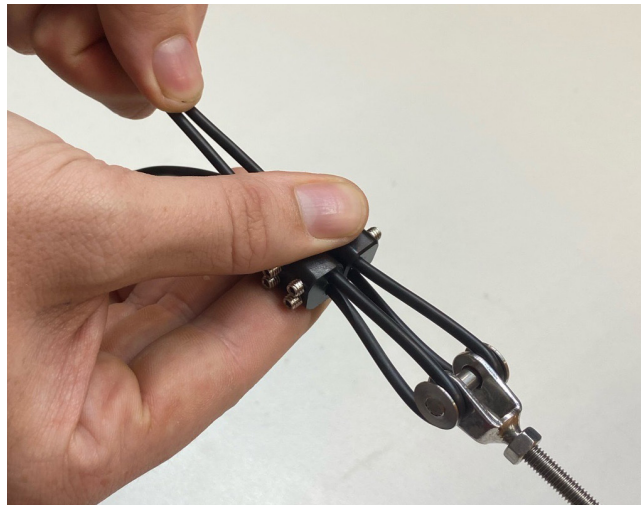
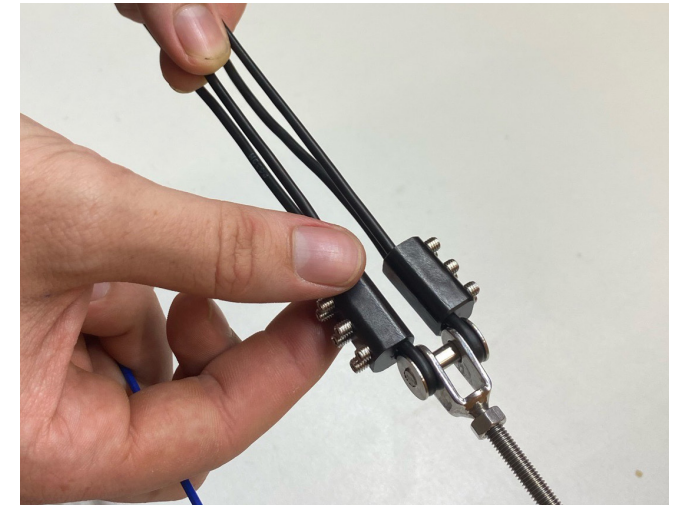

Fig 4.1 Pull extra cabling through the fixing block until they are tight and even in tension (above), then slide the block up to the turnbuckle (above right).
Fig 4.2 Slide the blocks up to the turnbuckle.
4. Pull the extra cable through the powered end (the end with extra cable and loose grub screws in the fixing blocks) and pull each cable until they are both tight and even (Fig 4.1). Once tight, slide the fixing blocks up to the turnbuckle (Fig 4.2).